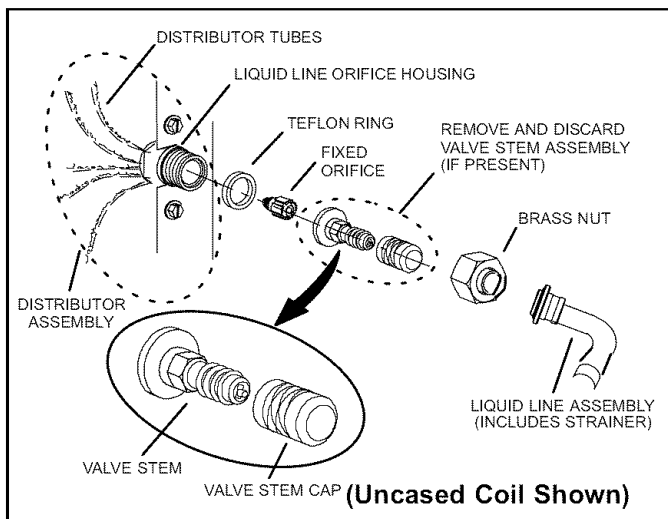

Figure 15. Typical Fixed Orifice Removal
4. Remove and discard fixed orifice, valve stem assembly if present and Teflon ring as illustrated in figure 15.